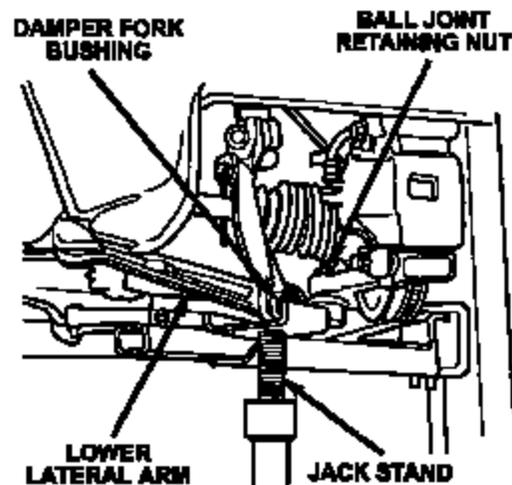

Figure 9
11. Place a jack stand under the damper fork bushing and apply sufficient pressure to the bottom of the lower lateral arm to prevent the ball joint stud from spinning (Figure 9). Tighten the ball joint retaining nut to 47 ft. lbs. (64 N·m).